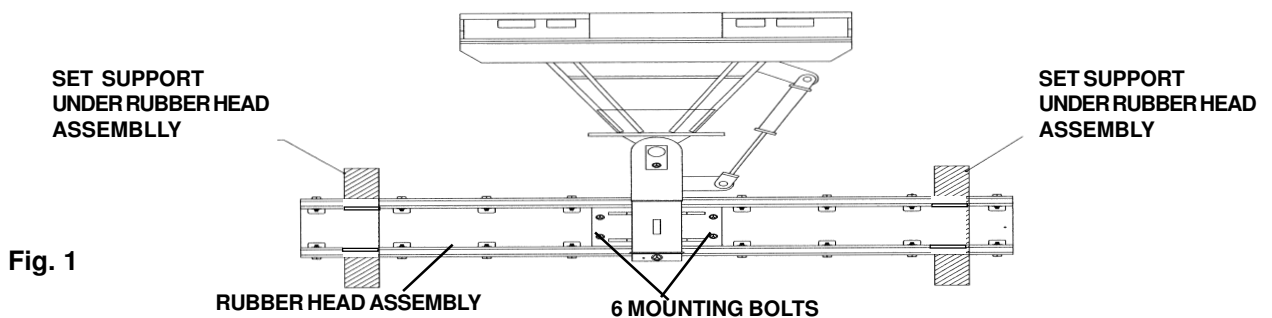

Fig. 1
The top rubber edge on the dual "Rubber Head Assembly" can be easily reversed. To perform this operation: (see Fig. 1)
1. The rubber head assembly must be supported as shown in Fig.1. Using the loader, gently set the unit on the (2) two supports.